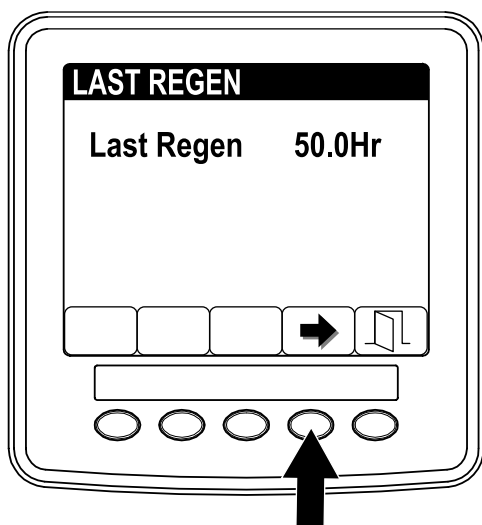

Figure 37
3. Use the LAST REGEN field (Figure 37) to determine how many hours you have run the engine since the last reset, parked, or recovery regeneration.